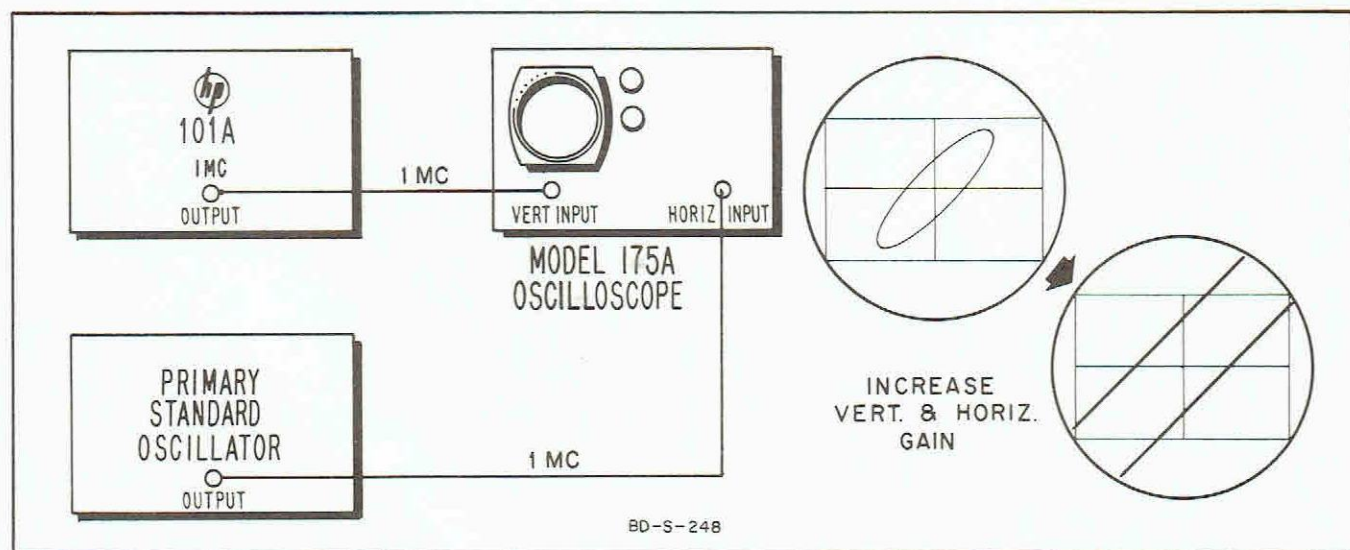

Figure 3-5. Setup for Checking Oscillator Frequency with a Local Standard using Lissajous Pattern
c. Adjust FINE FREQ control of Model 101A to stop oscilloscope pattern. Extremely small frequency differences can be determined if you adjust Model 101A so that oscilloscope pattern is a very narrow ellipse. Increase both horizontal and vertical gain. Watch diagonal lines carefully and adjust FINE FREQ control to keep lines stationary (see figure 3-5). One cycle of drift in 17 minutes represents 1 part in 10^9 error.